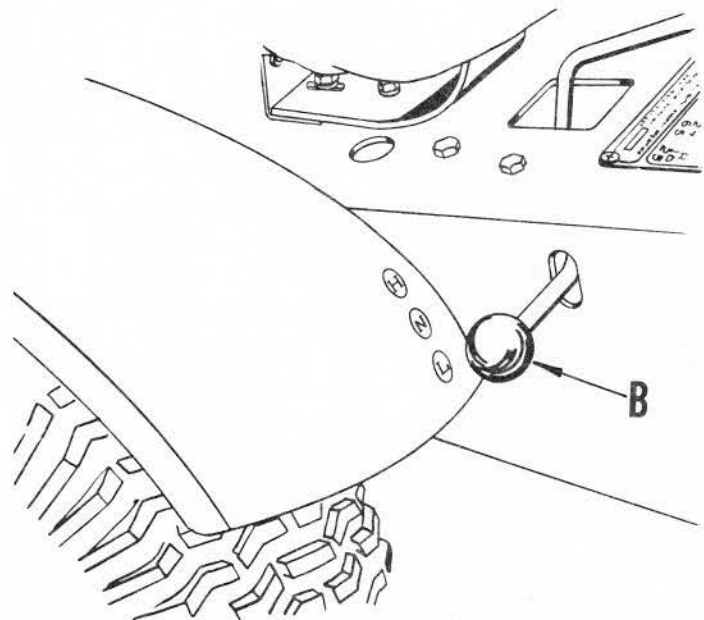

FIG. 4
- The high-low range (B, Fig. 4), is located on R.H. frame side just forward of R.H. rear fender. The high-low range lever has 3 positions, up for high-range, center for neutral, and down for low range. There are two neutral positions in transmission, one on the gear shift lever, and one on the high-low range lever. Both levers must be engaged for tractor to operate. Place gear shift lever in neutral position for starting tractor. Place high-low range lever in neutral for easier pushing of tractor or when tractor is being towed.
- The high-low range lever (B, Fig. 4), is in NEUTRAL.